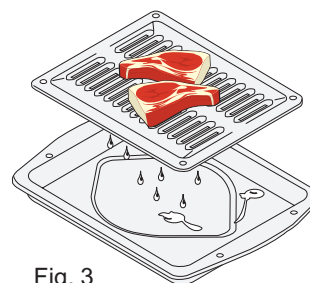

Fig. 3
Note: The broiler pan and the insert allows grease to drain and be kept away from the high heat of the broiler (See Fig. 3). **DO NOT** use the pan without the insert. **DO NOT** cover the insert with foil; the exposed grease could ignite.
5. Grasp oven door firmly on both sides and slide door up and off hinges at the same angle. (See Fig. 3)
2. Hold door at the sides near the top while resting the lower front of door on your knee. Insert the door channels at the bottom of door over the door hinges, (See Fig. 3).